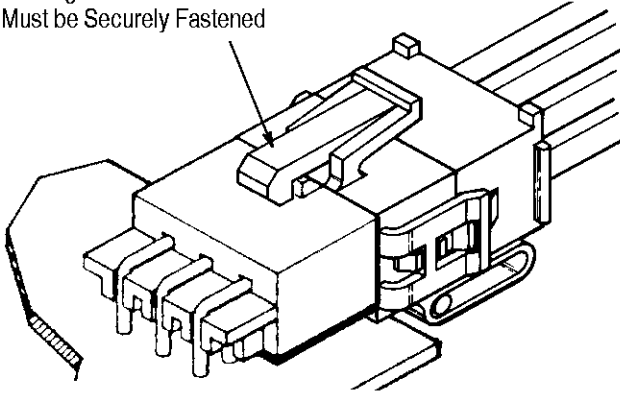

Figure 7
3. Follow Steps 1 and 2 for header plug assemblies. See Figure 7.